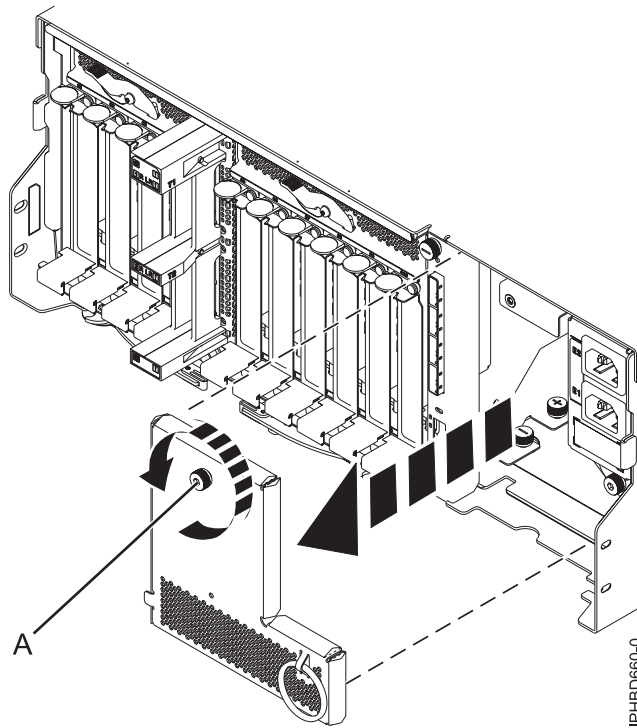

Figure 28. Removing an input power distribution assembly cover
7. On the input power distribution assembly cover, loosen the thumbscrew **(A)**, and then remove the cover as shown in Figure 28.